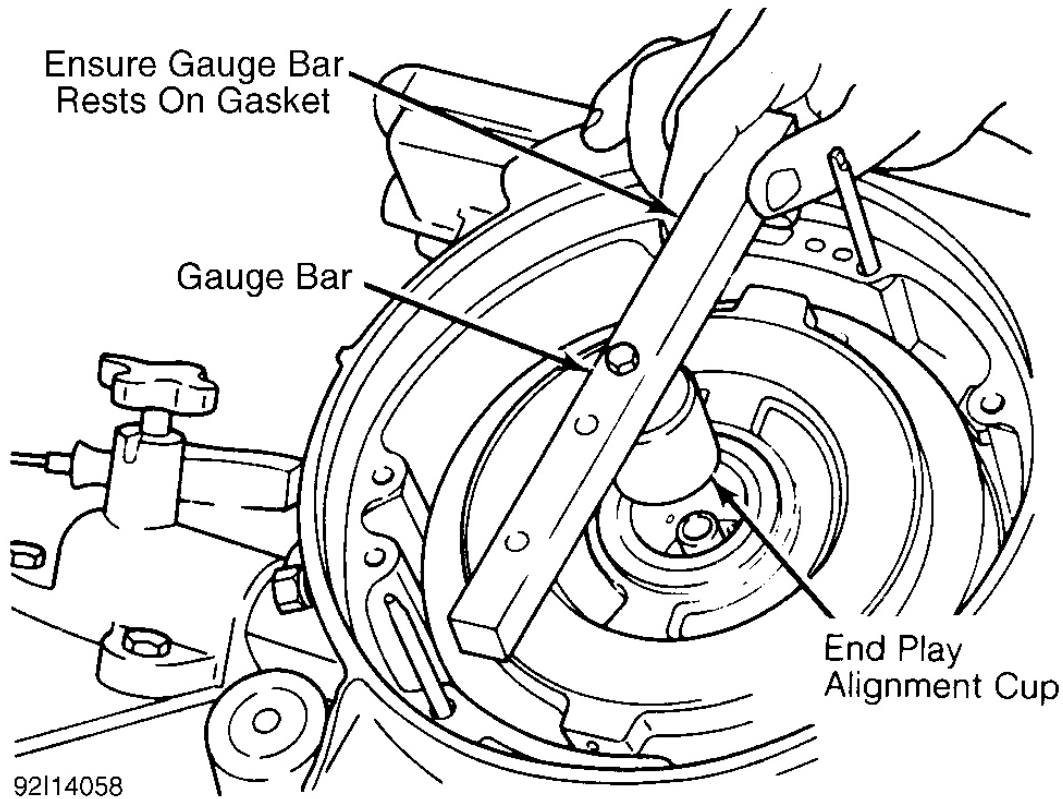

Fig. 18: Installing Transaxle End Play Measuring Tools
12. Install pump Alignment Pins (T81P-77100-A) and pump housing gasket. Position transaxle End Play Checking Tools (T81P-77389-A and T80L-77003-A) in intermediate clutch. See **Fig. 18** .